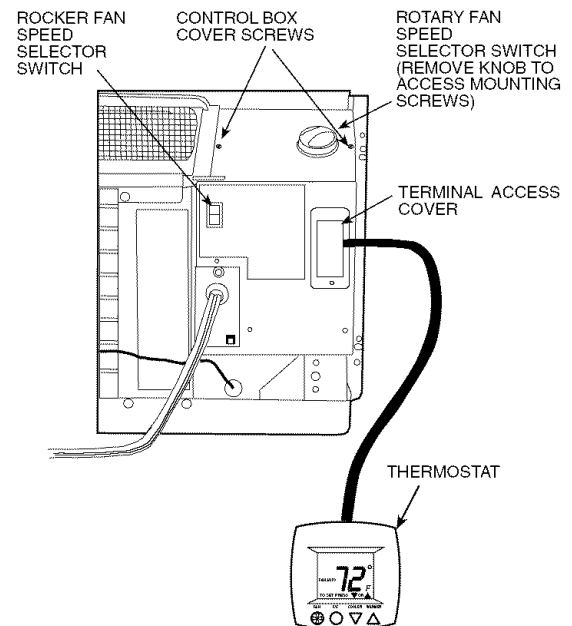

Fig. 2 — Control Box Terminal Cover for Wall Thermostat Models
1. Remove the terminal access cover and save. See Fig. 2.
2. Open the control box by removing the 2 control box cover screws shown in Fig. 2. Swing the cover down to open. Save the screws.
- Remove the knob and rotary fan speed selector switch from the control box cover by removing the 2 screws located under the knob shown in Fig. 2. Discard the knob and switch.
- Remove the rocker fan speed selector switch from the control cover and replace with the plastic rectangular plug provided in the relay kit. See Fig. 2 and 6.
5. Re-install the terminal access cover. See Fig. 2.